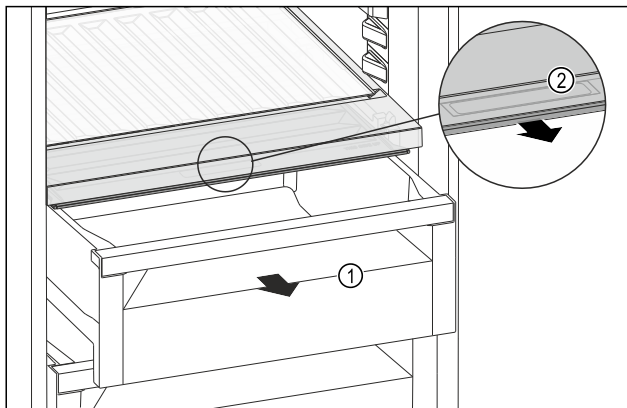

Fig. 152
- Pull out the drawer Fig. 152 (1).
- Grasp the recessed grip Fig. 152 (2) on the compartment lid and pull the compartment lid forwards at the same time.